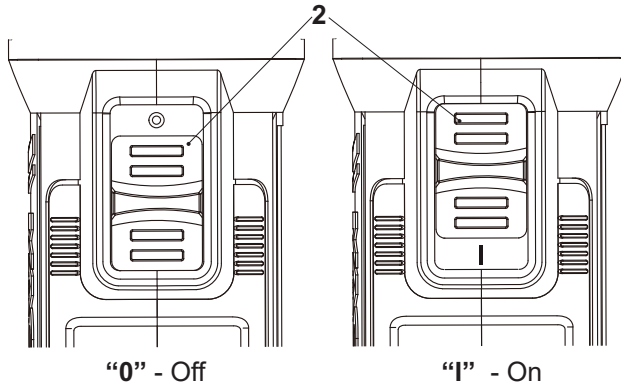

Fig. 13
- > Make sure the on/off switch (2) is in off position (Fig. 13).
- > Slide the on/off switch (2) forward (as seen from the operator's position) to switch the product on (Fig. 13).
- > Slide the on/off switch (2) backward (as seen from the operator's position) to switch the product off (Fig. 13).